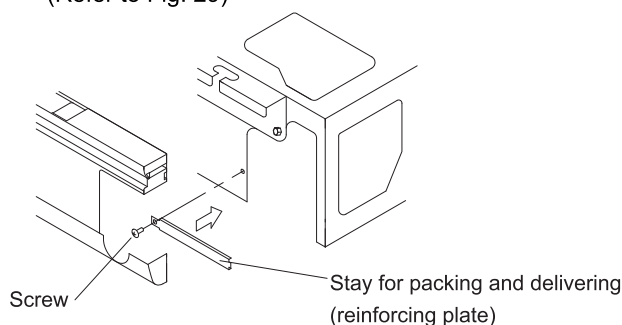

Fig. 29
- After the drain piping work, install the stay for packing and delivering (reinforcing plate), which was removed in the section of "6. REFRIGERANT PIPING WORK". However, it is not necessary to install the stay for packing and delivering at the right side (reinforcing plate). (Refer to Fig. 29)